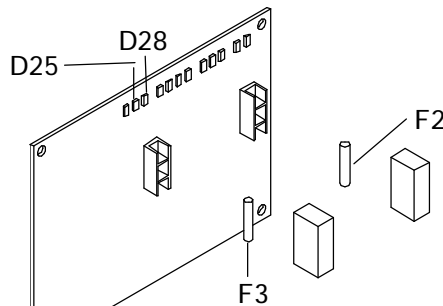

Fig. 22
a) Check the lighting up of the leds D25 and D28 on the printed circuit card (code 02E03947, tav. 7). If not, check the fuses F2 and F3 on the printed circuit board (Fig. 22).